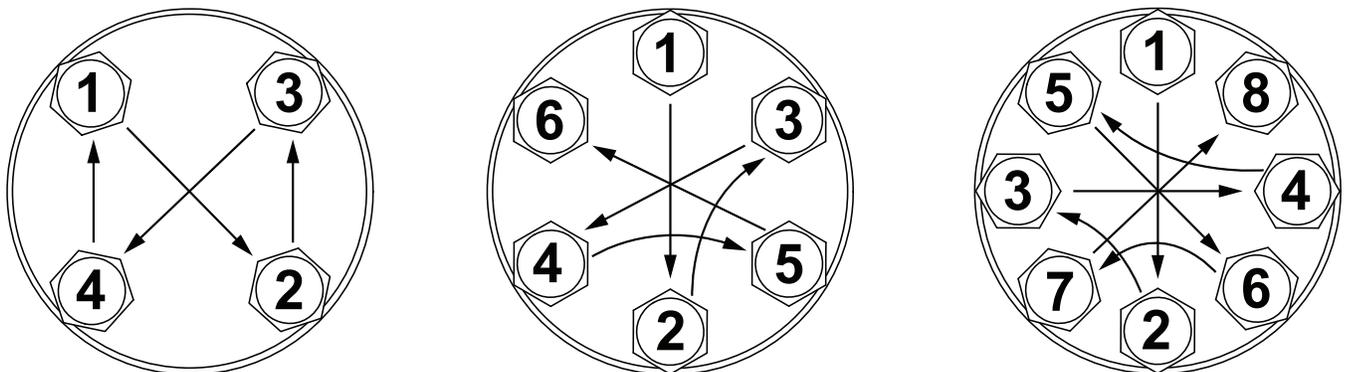

Figure 27 Bolt Tightening Pattern Diagram
- 6 Follow proper body-to-bonnet bolting procedures. Begin to torque the bonnet nuts (Key 26) $\frac{1}{4}$ of the torque value listed in Table 4, torque the nuts in a crisscross pattern as shown in Figure 27. Hot torquing the valve nuts is not recommended.